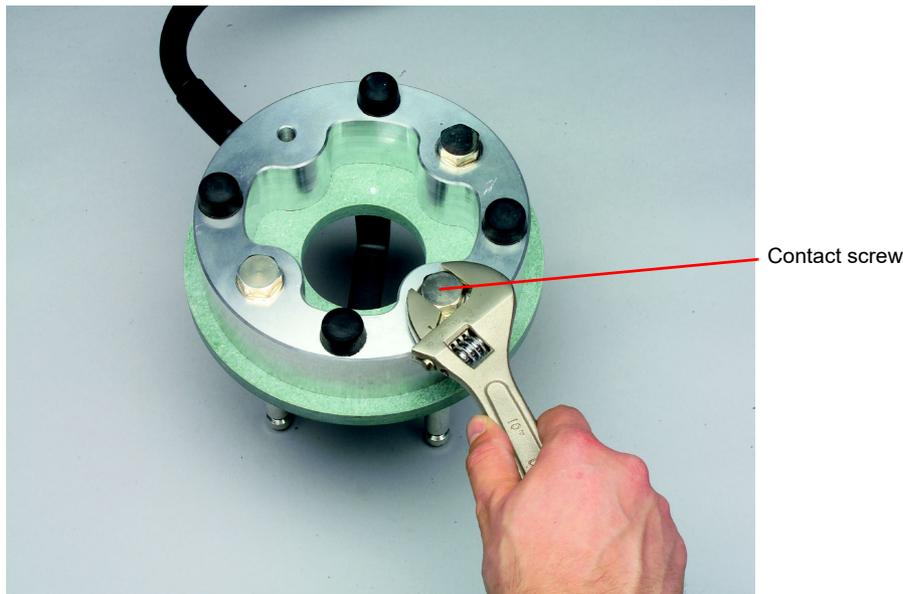

Figure 2-10: Opening the surge arrestor chamber
2. Open the surge arrestor chamber using a 22 mm wrench by removing the contact screw (see Figure 2-10 below).